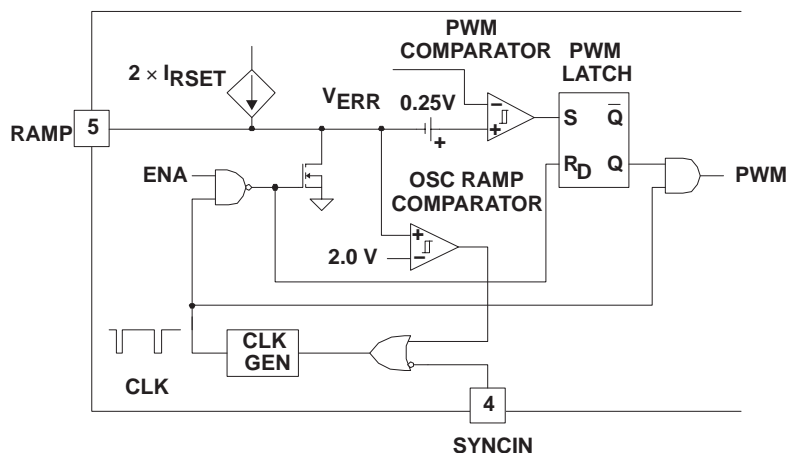

Figure 6. Oscillator and PWM Modulator
The RAMP pin serves two purposes: (1) a capacitor on this pin sets the oscillator charging time to program the frequency of operation for the converter and (2) the peak voltage on RAMP defines the gain of the PWM modulator. The UCC2541 has a leading edge modulator that compares the error output with the RAMP voltage. A diagram of the oscillator and PWM modulator is shown in Figure 6.